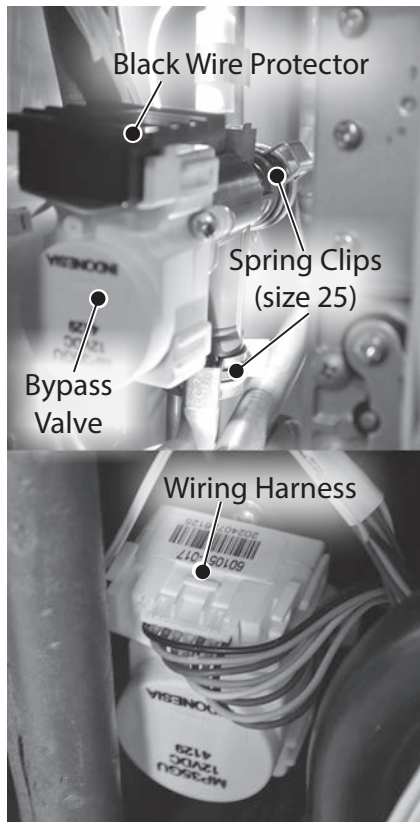

Figure 185 - Bypass valve
- 14 Locate the bypass valve on the left side of the water heater as shown in Figure 185.